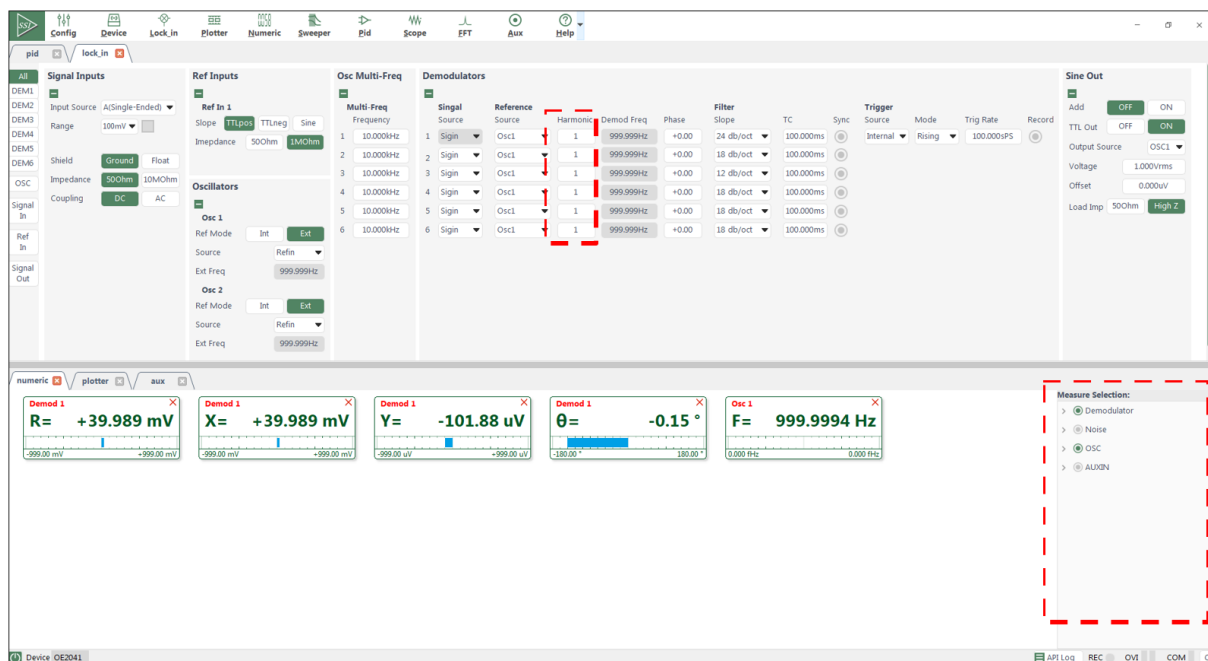

Figure 37. Additional Demodulator Configuration
4. To configure another demodulator, use the red boxed area shown in Figure 37 to set the harmonic order of Demodulator 2 to 3 and enable the display of the Demodulator 2 measurement result. In this way, the fundamental component and the third harmonic component of the input signal can be measured at the same time.